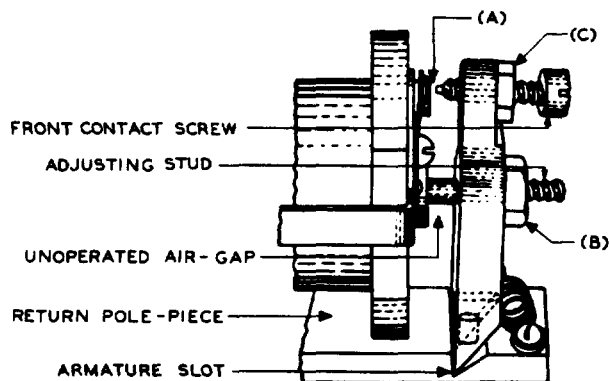

Fig.3 - Relay With Feather Contact Spring
2.08 Tightness of Locknuts: Figs. 3 (C) - The locknuts shall be sufficiently tight to hold the screws in the adjusted position.
2.09 Tightness of Adjusting Nut: Fig. 3 (B) - The adjusting nut shall be sufficiently tight to hold the armature in any adjusted position.
2.10 Contact Separation: Fig. 3 (A)